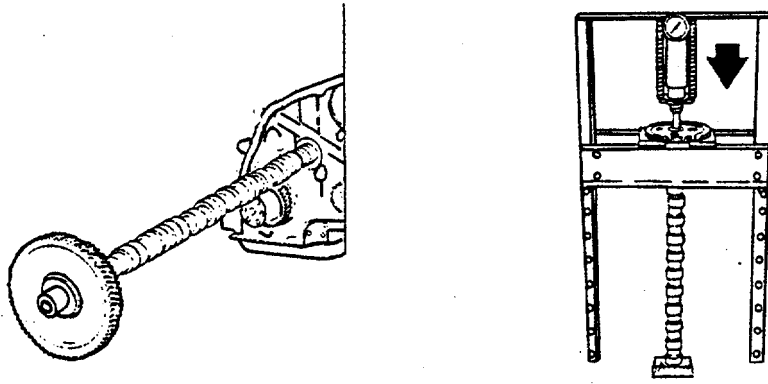

FIGURE 4-25. Removing Camshaft Gear.
- (a) Install the camshaft and gear assembly in a hydraulic press. Place V- blocks under the gear. Ensure the V-blocks support the hub area of the gear (Figure 4-25).